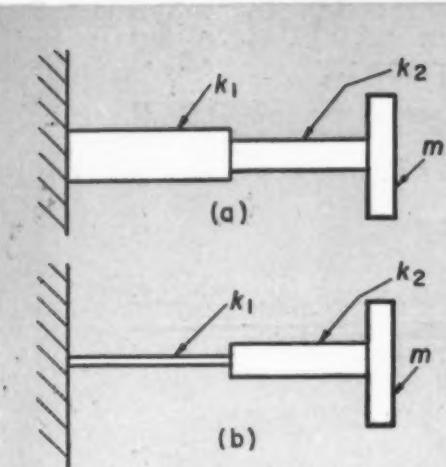
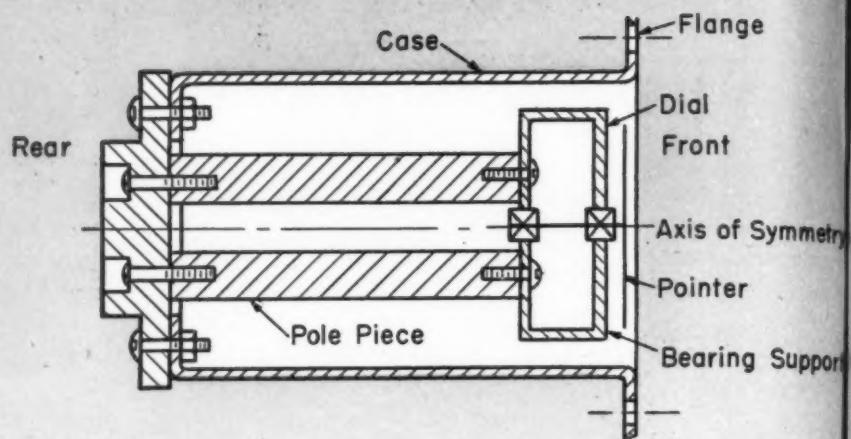

Fig. 3—Shock resistance of cantilever beam system improved by increasing flexibility of base member
Fig. 4—Cross section of switchboard meter using flexible case for desired shock resistance
**T**WO die-cut parts completed the assembly shown in Fig. 3. It was most important, however, that the two holes in these parts, after assembly, be as accurate as possible and in perpendicular alignment. In the production of these two parts, the only close tolerances which had to be held were dimensions C, D and E, Fig. 4.
A switchboard meter of the moving coil type utilizes the case of the instrument to obtain the desired flexibility. This meter, as illustrated in Fig. 4, is of the flush-mounted type which extends rearward from the front of the switchboard, and is attached to the switchboard by means of a flange at the front end of the cylindrical case. The entire mechanism of the meter is supported from the rear end of the case. The flexibility of the front and rear portions of the case, in the direction of the axis of symmetry, provides a relatively low natural frequency in a direction normal to the switchboard panel. The case functions as a cantilever beam in all directions parallel with the panel of the switchboard, and exhibits flexibility, not only because of its own lack of stiffness, but also because of the flexibility of the switchboard panel to which it is secured. The mechanism is thus supported upon a relatively flexible support with respect to shock motions in any conceivable direction.
An analogy to Fig. 3 is evident, wherein the armature corresponds to the mass  $m$ , the shaft corresponds to the member  $k_2$ , and the end bells correspond to the member  $k_1$ . The maximum stress as a result of shock may then be reduced by decreasing the stiffness of the end bells. All members of the system benefit by this reduction, including the ball bearings which are subjected to a smaller force. The decrease in stiffness in the instance of the electric motor may be achieved through the use of pressed-metal end bells. With flexible end bells, there is less chance that the ball bearings will be damaged by shock than with rigid end bells.